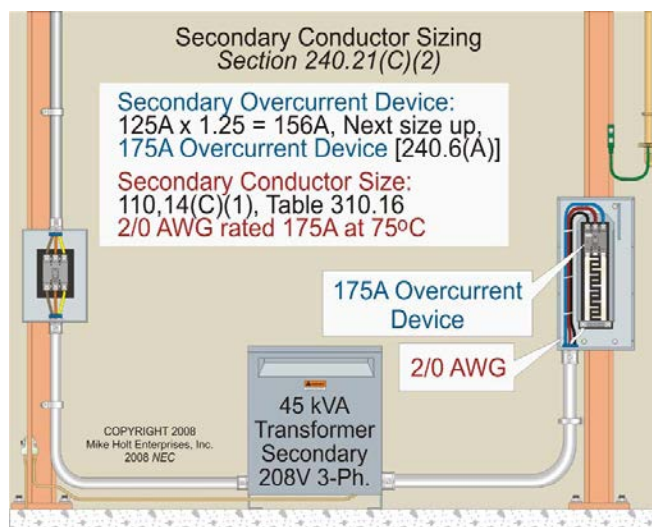

Figure 12-50
Step 2: Size the secondary device rating at 125% of the secondary current rating. **Figure 12-50**